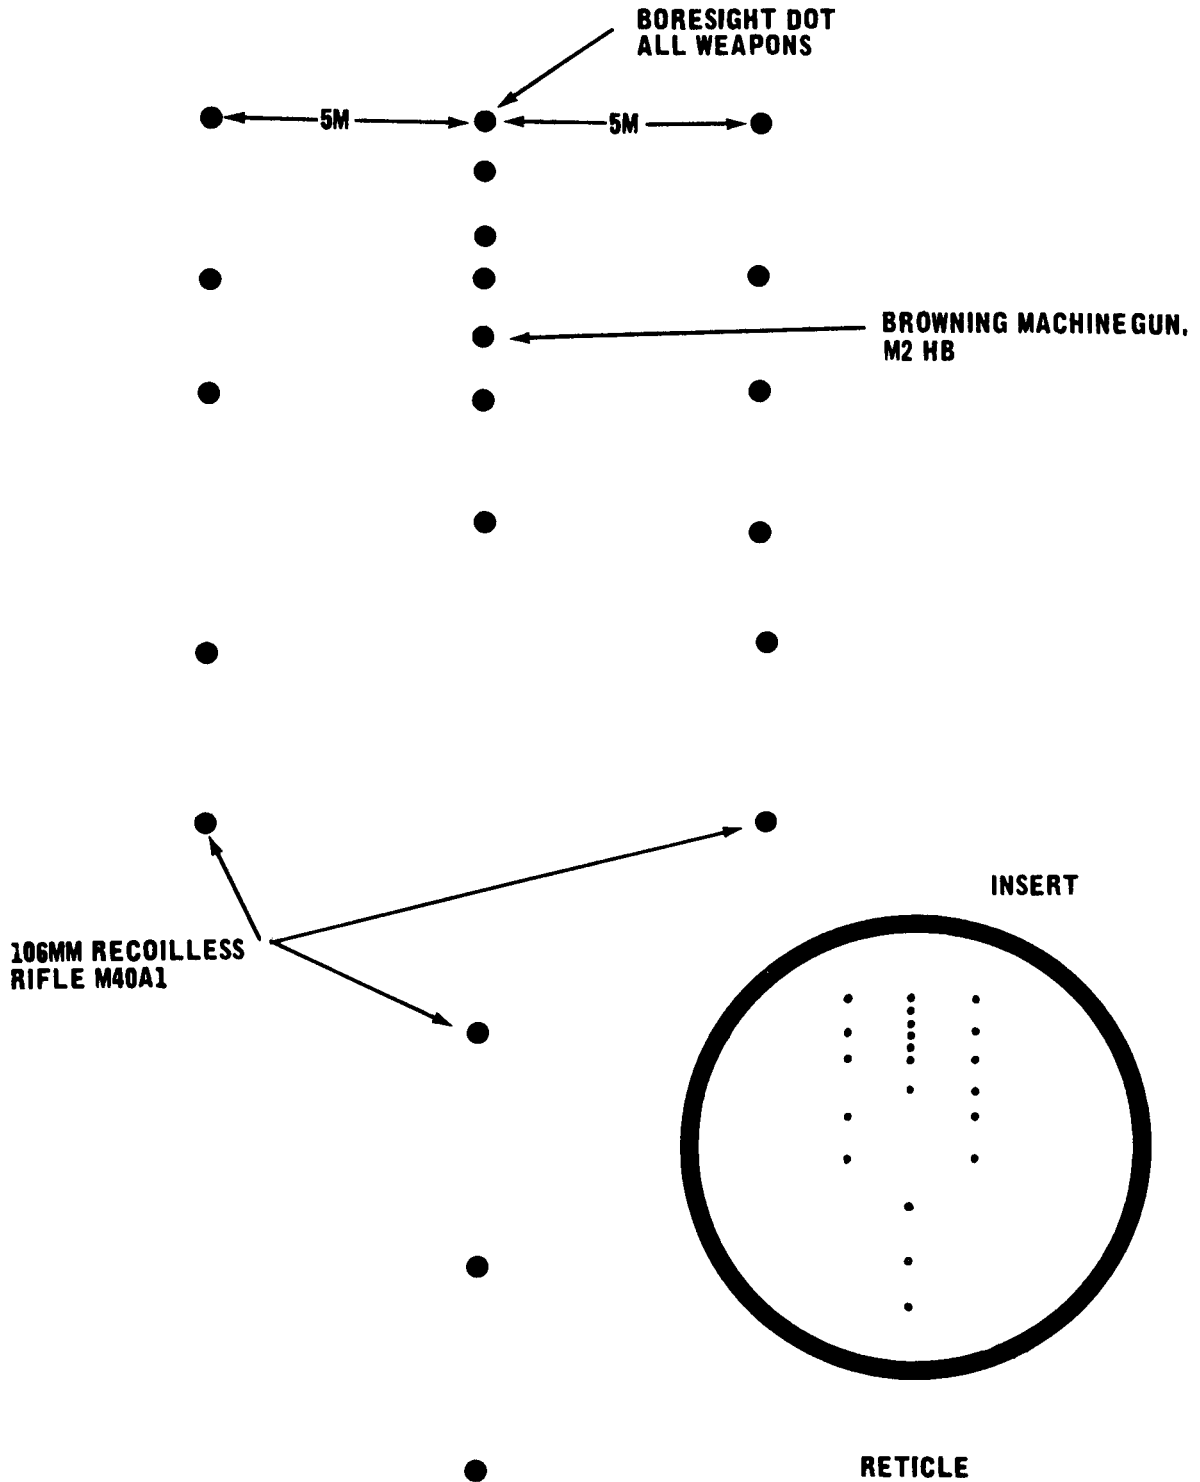

Figure 5. Reticle pattern.
14. Reticle Pattern (Fig 5). The reticle pattern is a multiple reticle designed for use with the Browning machinegun caliber .50 HB M2, and the 106-mm recoilless rifle. The top center dot is the boresight dot for both weapons. The seven dots
down the center are in 200-meter increments from 0 to 1200 meters, and are used with the caliber .50 machinegun. The six dots on each side and the three dots at the bottom are also divided into 200-meter increments from 0 to 1600 meters and are used with the 106-mm recoilless rifle. The Sight provides 5 mils lead right or left of center as shown in figure 5.